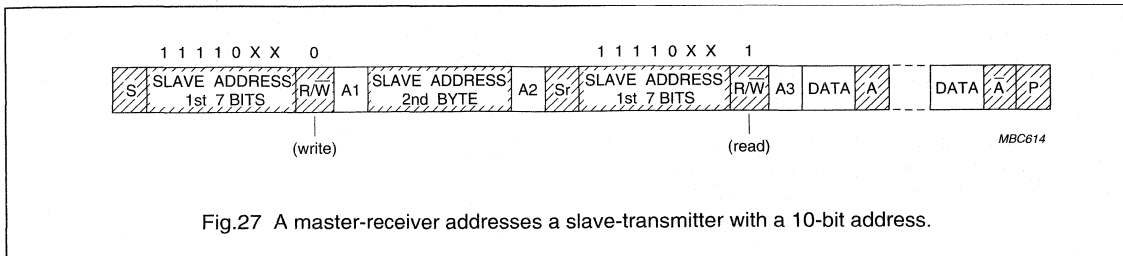
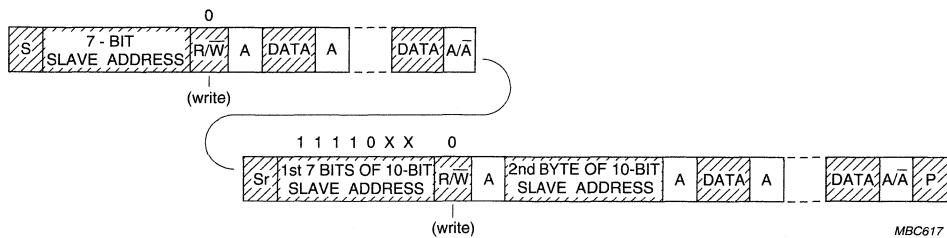

Fig.27 A master-receiver addresses a slave-transmitter with a 10-bit address.
Fig.30 Combined format. A master transmits data to two slaves, one with a 7-bit address, and one with a 10-bit address.
The transfer direction is changed after the second R/W bit (Fig.27). Up to and including acknowledge bit A2, the procedure is the same as that described for a master-transmitter addressing a slave-receiver. After the repeated START condition (Sr), a matching slave remembers that it was addressed before. This slave then checks if the first seven bits of the first byte of the slave address following Sr are the same as they were after the START condition (S), and tests if the eighth (R/W) bit is 1. If there is a match, the slave considers that it has been addressed as a transmitter and generates acknowledge A3. The slave-transmitter remains addressed until it receives a STOP condition (P) or until it receives another repeated START condition (Sr) followed by a different slave address. After a repeated START condition (Sr), all the other slave devices will also compare the first seven bits of the first byte of the slave address (11110XX) with their own addresses and test the eighth (R/W) bit. However, none of them will be addressed because R/W = 1 (for 10-bit devices), or the 11110XX slave address (for 7-bit devices) does not match.
- Combined format. 10-bit and 7-bit addressing combined in one serial transfer (Fig.30). After each START condition (S), or each repeated START condition (Sr), a 10-bit or 7-bit slave address can be transmitted. Figure 27 shows how a master-transmits data to a slave with a 7-bit address and then transmits data to a second slave with a 10-bit address. The same master occupies the bus all the time.